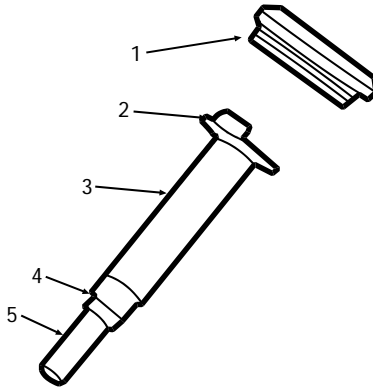

Fig. 15 Bulb holder
- 1) mount the new bulb (item.5, fig.15) supplied by Daray Ltd in its socket (item.4, fig.15),